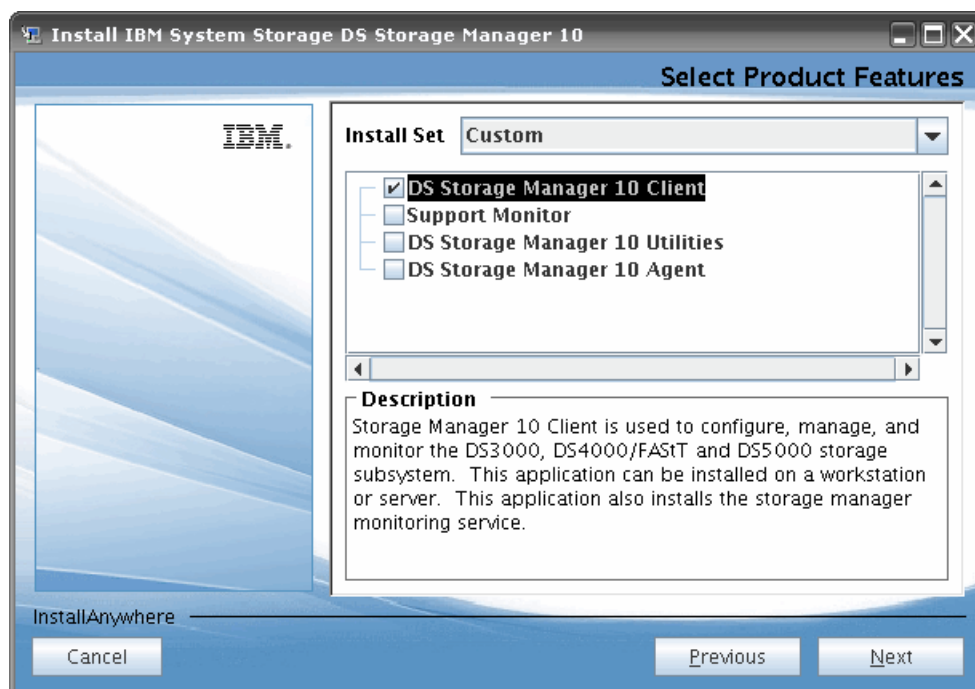

Figure 5-19 Select product features
8. Select the Install set to be installed (DS Storage Manager 10 Client in our case). Click **Next** as shown in Figure 5-19.